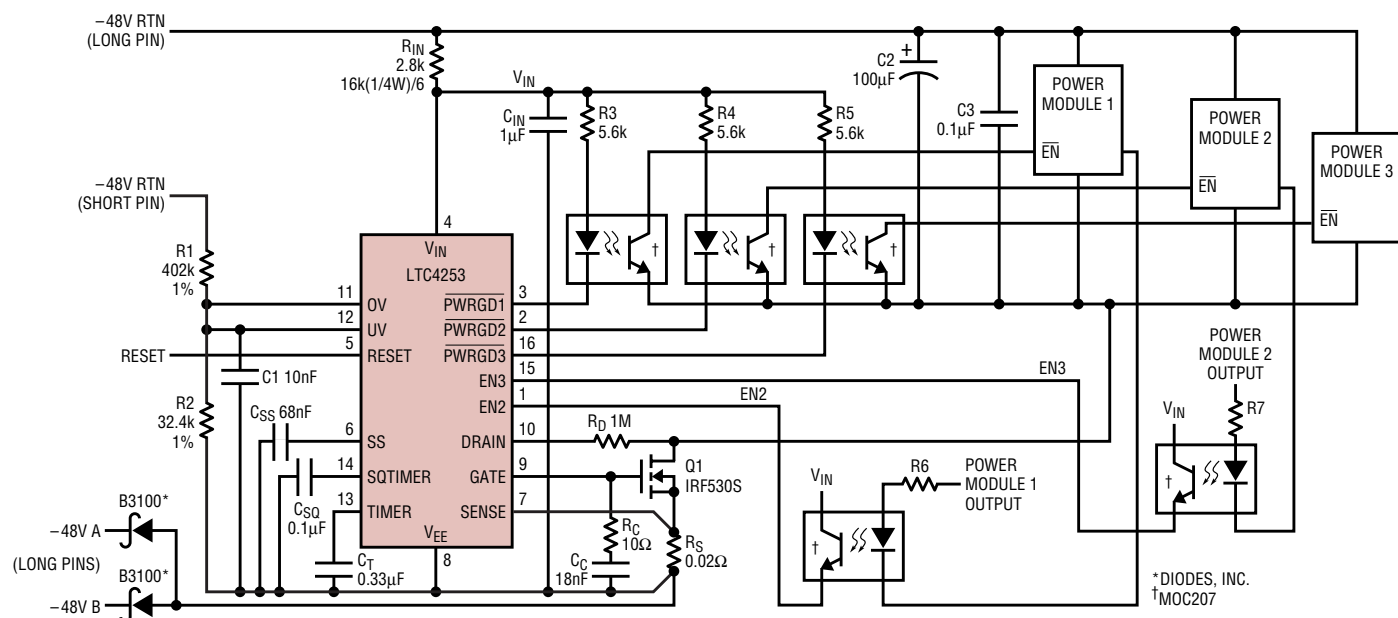

Figure 7. -48V/2.5A Hot Swap sequence controller
The LTC4253 has three sequenced \overline{PWRGD} outputs and two enable (EN) inputs allowing three modules be sequenced as shown in Figure 7. The LTC4253 allows up to three power modules be turn on sequentially, minimizing the power demand on the -48V bus. When the first module turns on, it signals via the EN input to enable the second module. The minimum sequence interval between each module is set by a capacitor at SQTIMER pin.